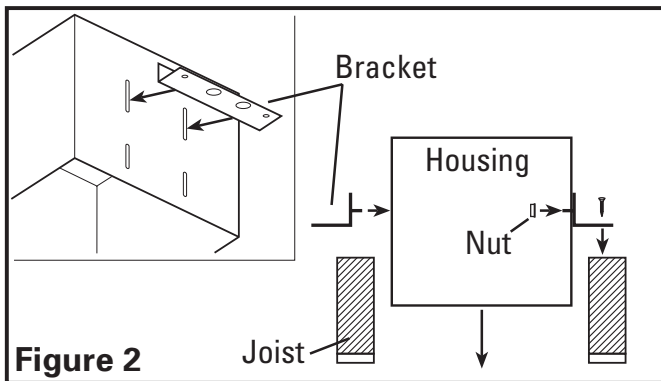

Figure 2
- 1a. **Installation on 2x4 Joists on 16" Centers:** Install the mounting brackets through the second set of slots on the fan housing and secure in place with the four included #10-32 nuts as shown. Center the fan housing between the joists and secure the mounting brackets with screws or nails (not included) to the joist. Adjust the height of the housing so that it is flush with the finished ceiling by loosening the mounting bracket nuts and sliding the housing up or down on the bracket. Full tighten all four nuts to secure the housing in place (Figure 2).